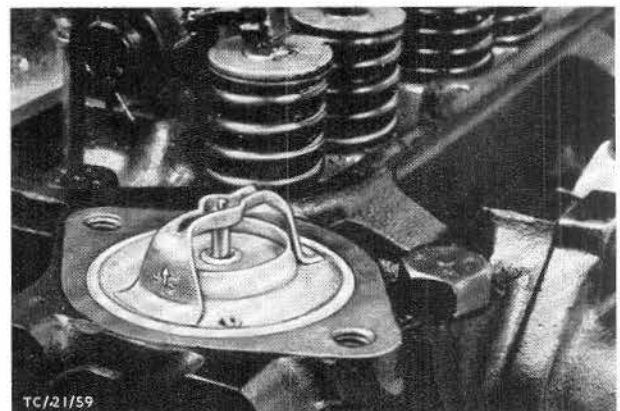

Fig. 71. Thermostat installed.
12. Position thermostat, Fig. 71, replace gasket and bolt on water outlet connection. Attach exhaust pipe to exhaust manifold.